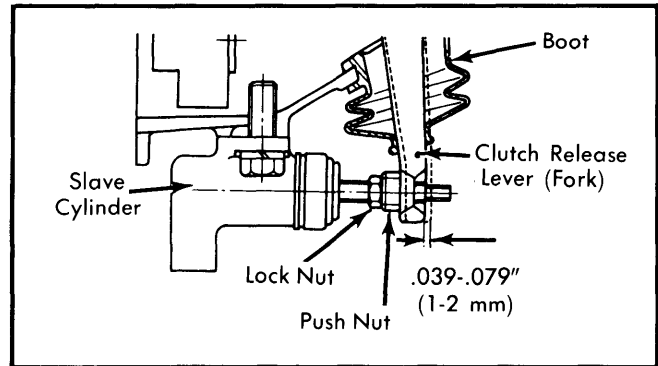

Fig. 6 Clutch Fork Free Play Adjustment Location for Datsun 210
- 1) Loosen lock nut and push nut. See Fig. 6.